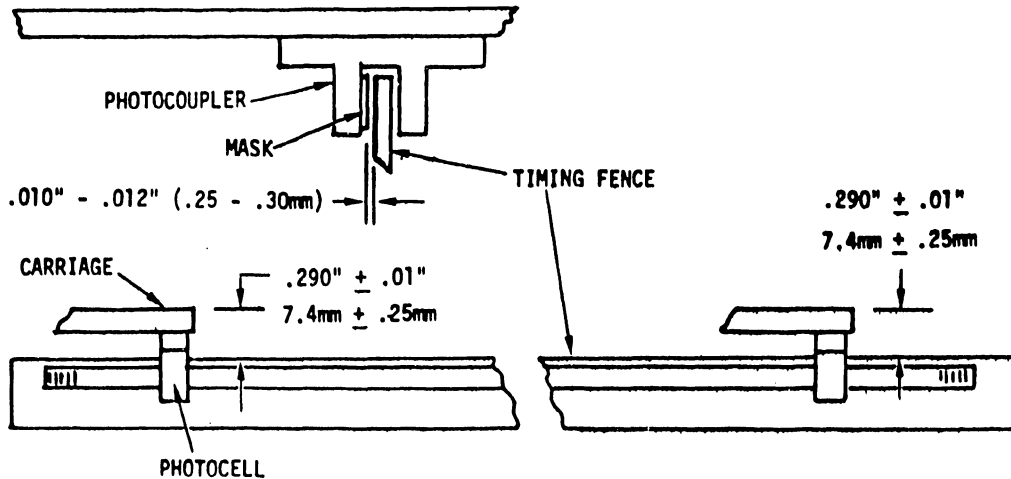

FIGURE 5-12 TIMING FENCE ADJUSTMENT CHECKS
- 2) The distance between the face of the fence and the photocoupler should be consistent along the length of the fence with a gap of .010" - .012" (metric .25 - .30 mm). (See Figure 5-12.)